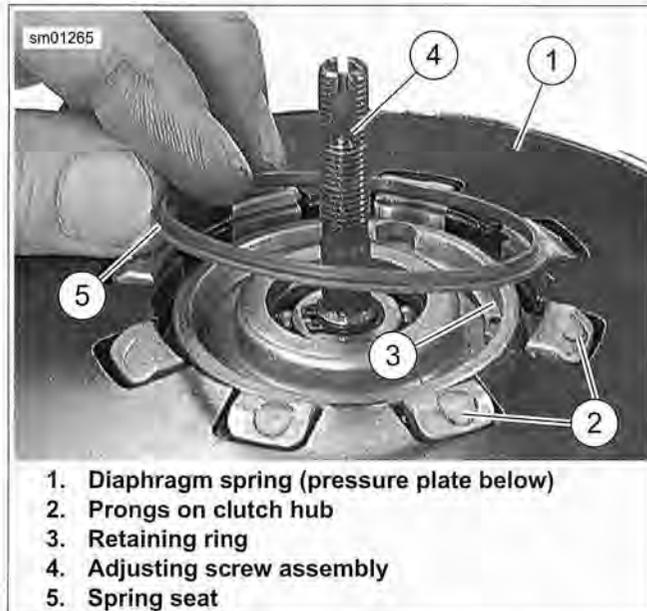

Figure 5-16. Spring Seat Installation
6. Install adjusting screw assembly (12, 13, 14, 15) into pressure plate (11), noting that two tabs on perimeter of release plate (15) must be inserted into corresponding recesses in pressure plate. Secure adjusting screw assembly with **new** retaining ring (16).
7. Position diaphragm spring (17) with its concave side facing inboard (toward pressure plate), onto pressure plate assembly.
8. Position spring seat (18) with its flat, larger outer diameter side facing inboard (toward diaphragm spring).
9. Install a **new** retaining ring (19) onto convex (outboard) side of diaphragm spring.
11. See Figure 5-16. Align square openings of pressure plate and diaphragm spring (1) so the assembly can be installed over prongs of clutch hub (2). Place assembly of spring seat (5), retaining ring (3), diaphragm spring, pressure plate, adjusting screw components (4) and compressing tool onto clutch hub and against clutch pack (28, Figure 5-10).